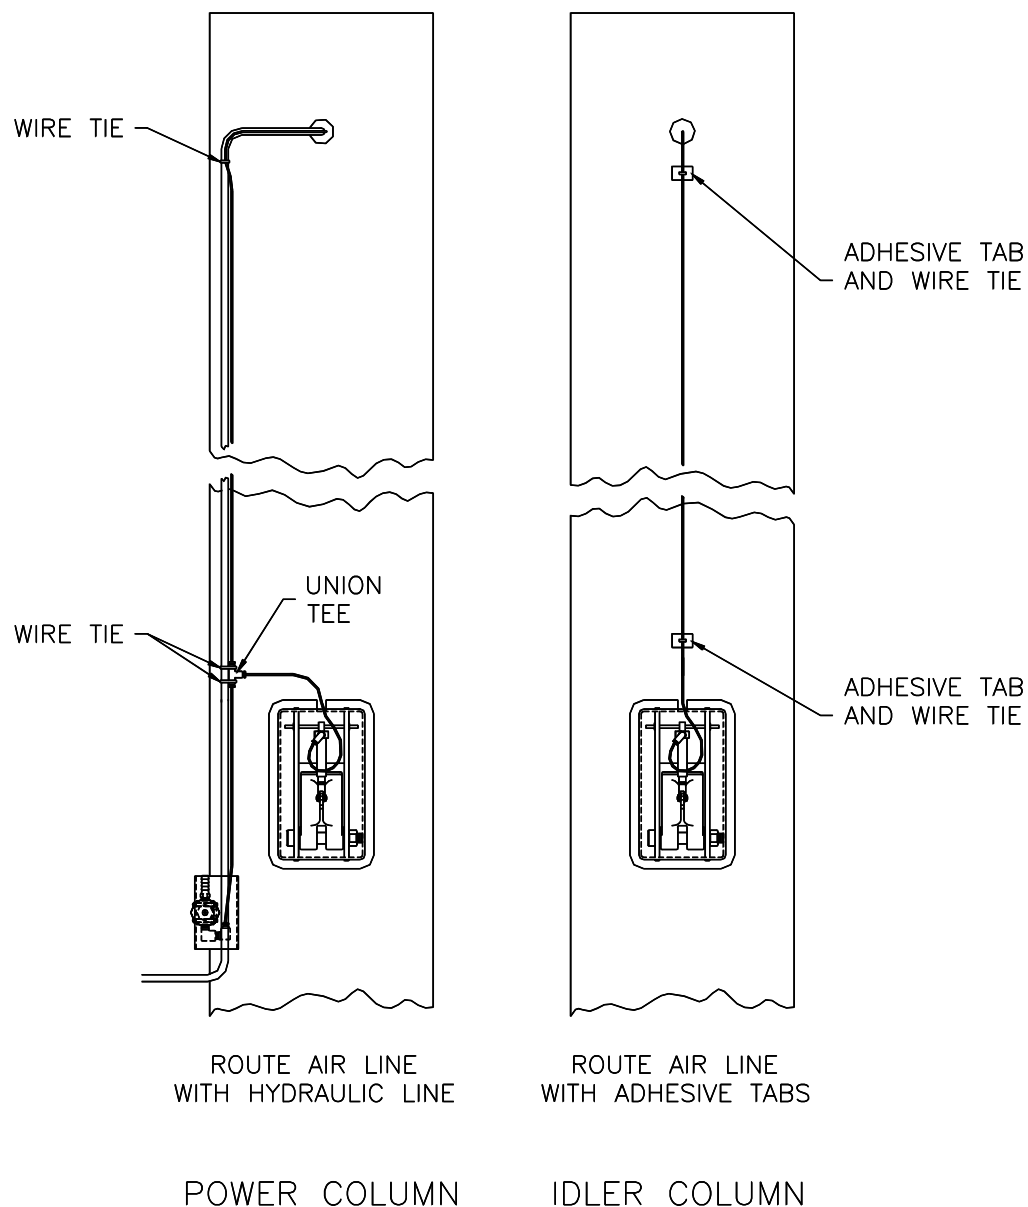

Figure 9
2. Be certain that the wiring in your building will handle the current required to operate this unit (Fig 9).
15. **BE CERTAIN ALL FITTINGS AND CONNECTIONS ARE TIGHT.** Fill the power unit with four (4) gallons of clean 10wt anti-foam anti-rust hydraulic oil or Dexron III ATF. **DO NOT USE OILS WITH DETERGENTS.**
16. Route the 1/8" air line (Fig. 9). Be certain not to kink or pinch the hose. Connect the button valve to a source of **clean, dry air** using the hose barb and clamp provided. Snap the covers onto the column.